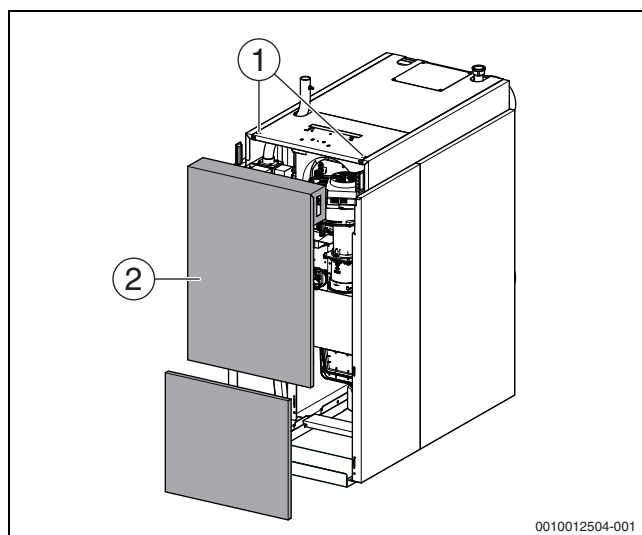

Fig. 33 Removing the front panel
- ▶ Turn the unlocking screws (→ Fig. 33, [1]) on the top of the boiler anticlockwise using a suitable tool and unlock the top boiler front panel.
- ▶ Tilt the boiler front panel (→ Fig. 33, [2]) forwards and lift up out of the bottom guide.